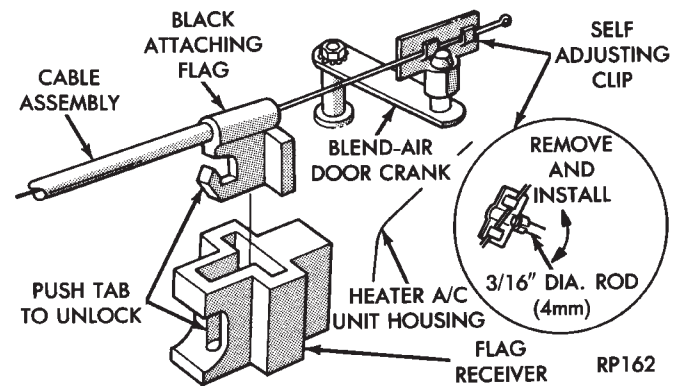

Fig. 2 Temperature Control Cable—Typical
(1) Remove heater-A/C control panel. Refer to Switch and Panel Component Service in Group 8E, Instrument Panel. Disconnect the attaching flag on the control cable from the heater-A/C control panel.
(2) Remove console assembly. Refer to Group 8E, Instrument Panel.
(3) Remove instrument panel lower steering column cover. Refer to Group 8E, Instrument Panel.
(4) Remove the right lower instrument panel/glove box door assembly. This assembly is clipped to the upper instrument panel at the right upper side.
(5) A/C equipped vehicles: From under the hood, disconnect the A/C suction line mounting bracket from the dash panel (above the expansion valve).
(6) From under the hood, loosen (do not remove) the four heater-A/C assembly to dash panel mounting nuts.
(7) From inside the vehicle: Remove the vertical (heater-A/C housing) support bracket (below the glove box).
(8) Tilt the entire heater-A/C housing assembly downward to gain access to the temperature cable.
(9) Locate and disconnect the attaching flag on the control cable at the heater-A/C housing (Fig. 2).
(10) Slip the cable self-adjusting clip from the blend-air door crank.
(11) Remove the cable from the vehicle.
(12) Removing the self-adjusting clip from cable (Fig. 2). Insert a 3/16 inch (4 mm) diameter tool (drill